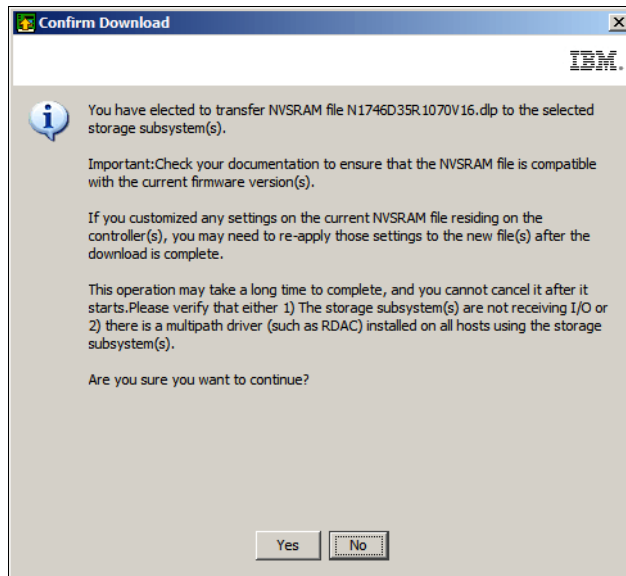

Figure 14-58 Confirm Download
- Click the **OK** button to continue and the **Confirm Download** window shown in Figure 14-58 on page 368 will appear.